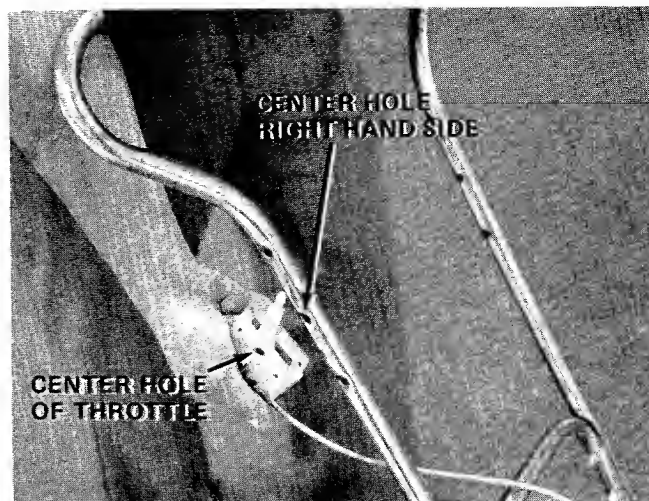

FIGURE 7.
7. Extend throttle control to upper right hand side of handle. Line up center hole of throttle with center hole on handle. See figure 7.